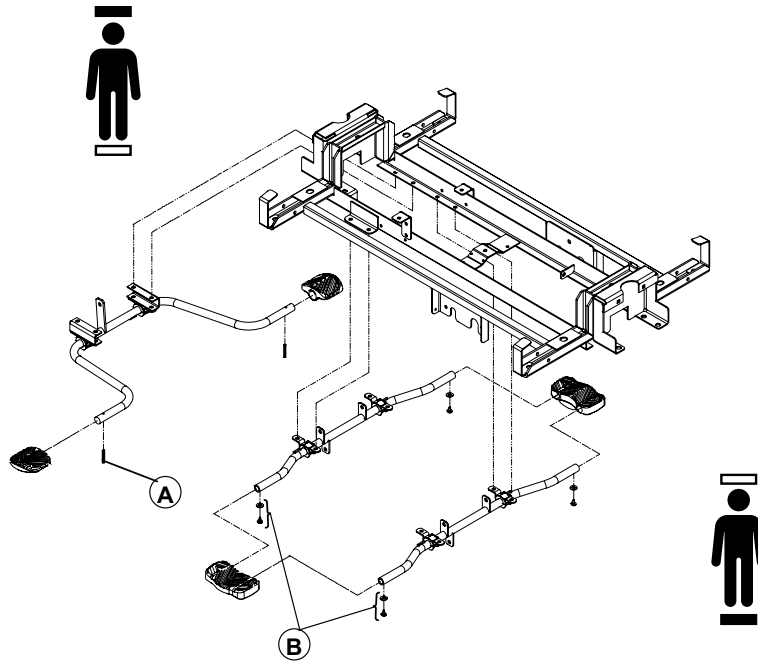

Figure 14 – Pump pedal replacement
2. Using a 3/16" punch and hammer, remove the spring pin (A) that secures the pump pedal to the pedal rod (Figure 14). Save the spring pin.
4. Using a drill with a 3/16" drill bit, remove the two rivets and two washers (B) that secure the pedal to the pedal rod (Figure 14).